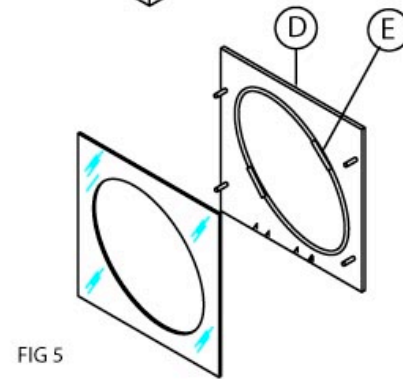

FIG 5
- 4.5 Place the outer clamp plate (D) and the rear grille in the hole made in the glass or partition from the rear and fix it in place using the tabs (E) to hold in place. (FIG 5)